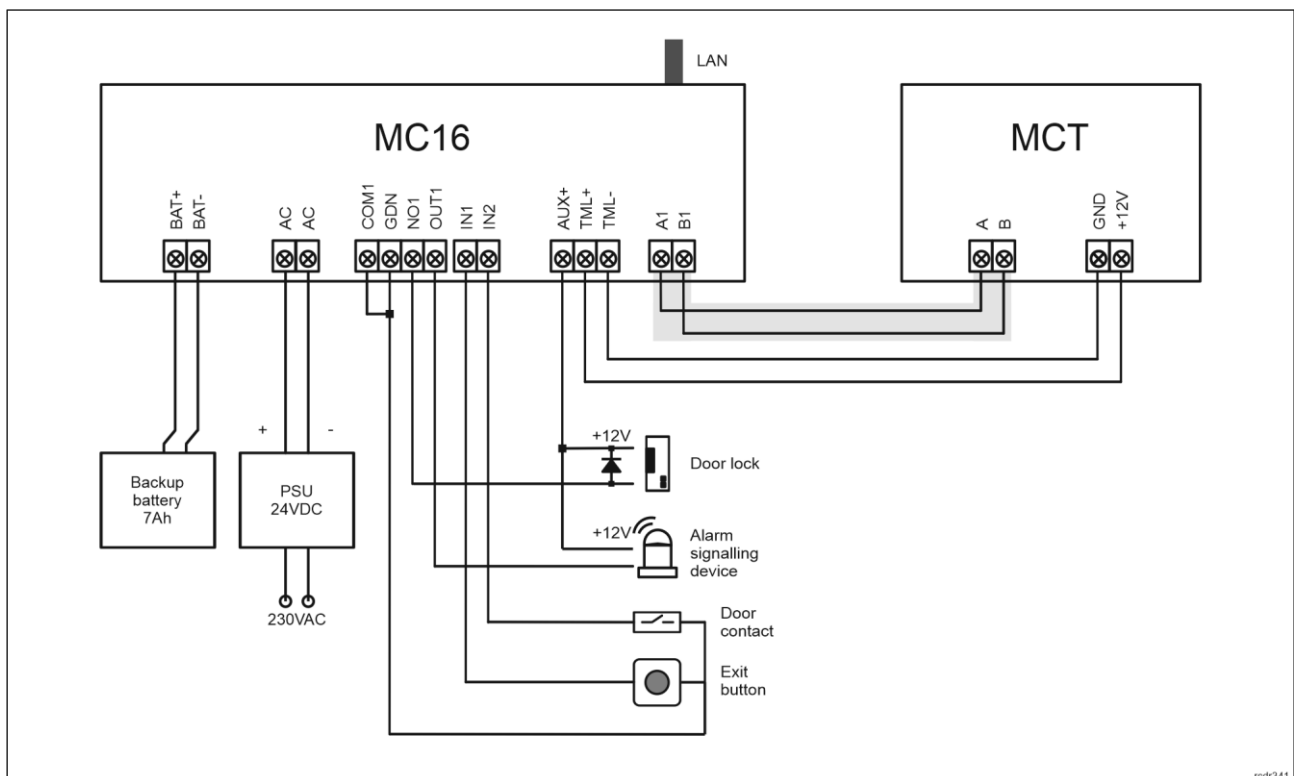

Fig. 9 Typical connection diagram for the terminal and MC16 access controller
1. Connect the device to RUD-1 interface (fig. 9) and connect the RUD-1 to computer's USB port.